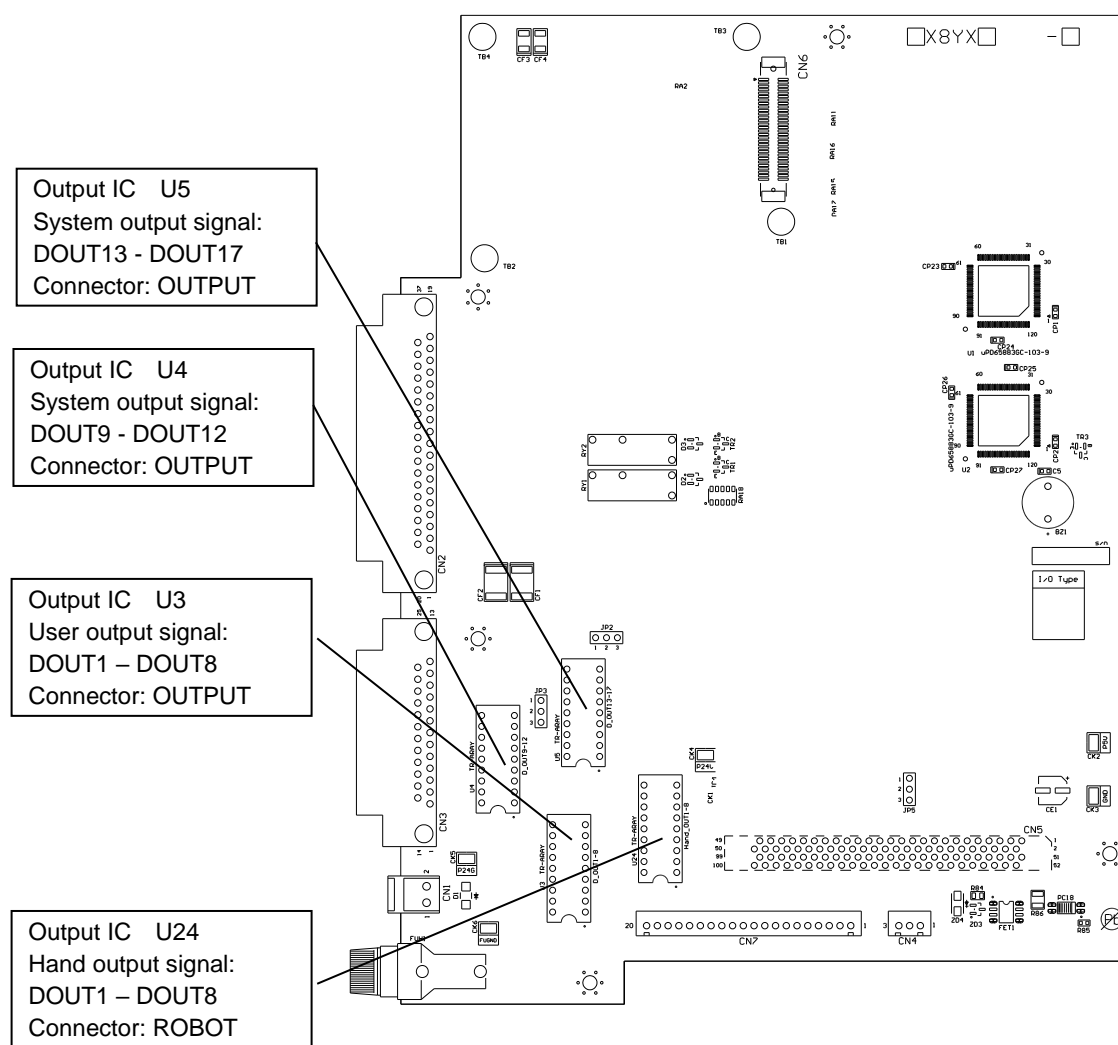

Fig. 4.11 I/O Board (KSL3000)
- 6) Remove the transistor output IC shown in Fig. 4.11 from the outlet.